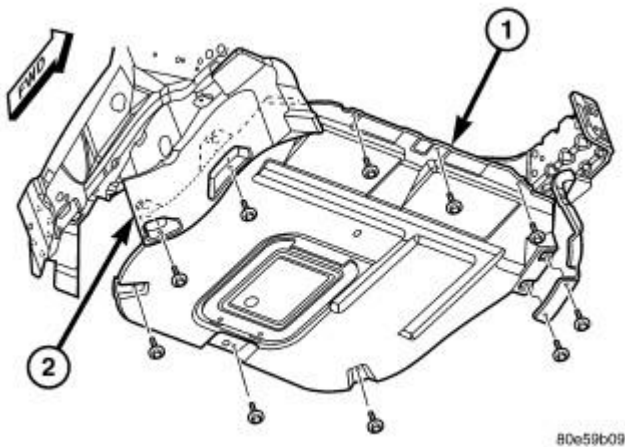

Fig. 196: Engine Compartment Lower Silencer
4. Remove engine compartment lower silencer (1) and accessory drive belt splash shield (2). See **Fig. 196**.
11. Install accessory drive belt splash shield (2) and engine compartment lower silencer (1). See **Fig. 196** .